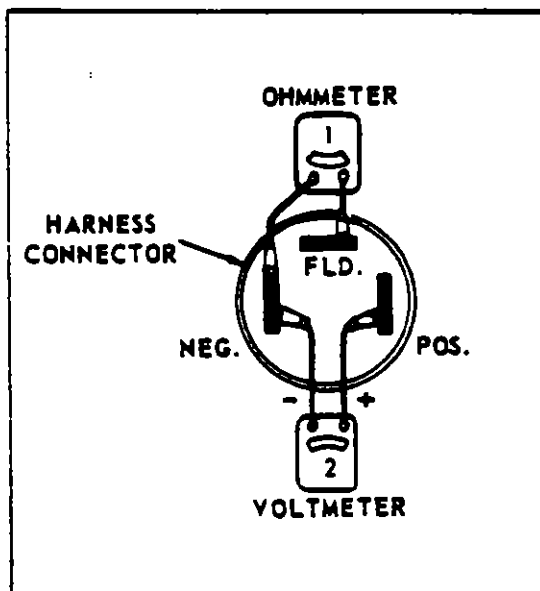

FIGURE 9-24. VOLT - OHMMETER TEST
a. Check the alternator field resistance with an ohmmeter as shown in Step 1, Figure 9-24 and note the reading. Make sure the master switch is OFF. Readings of less than 2 ohms, or more than 8 ohms indicate a defective field winding in the alternator or a defective wiring harness. If the reading is within the 2 to 8 ohm range, check the reading against the allowable resistance in the circuit which can be calculated by dividing the specified voltage for the alternator by the
b. With switch turned ON, connect voltmeter as shown in Step. 2, Figure 9-24. Make sure positive (+) and negative (-) voltmeter leads are connected as shown.